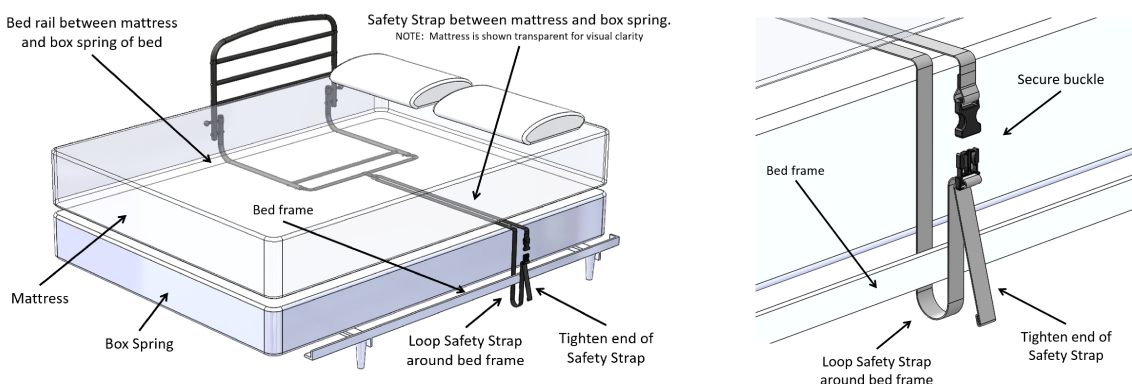

FIGURE 4
4. **IMPORTANT!!!** Secure the SAFETY STRAP to the bed frame, as shown in Figure 4. Unbuckle and loop SAFETY STRAP around bed frame and re-buckle. Tighten SAFETY STRAP to secure HANDLE ASSEMBLY against the side of the mattress. **DO NOT INSTALL PRODUCT WITHOUT SECURING THE SAFETY STRAP TO THE BED FRAME AS SHOWN IN FIGURE 4. IF YOU HAVE ANY QUESTIONS CALL STANDER AT (800) 506-9901 or (435) 755-0453.**